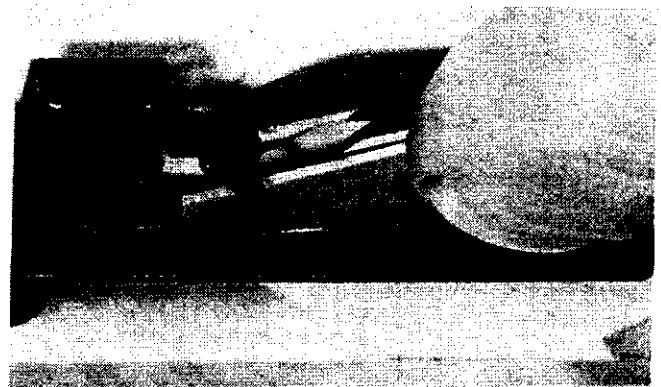
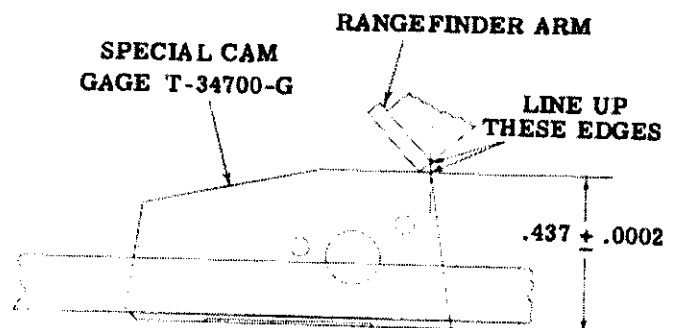

Figure 3. CAM INSERTING
Figure 4. MASTER CAM - PRE-INFINITY SETTING
b. Assemble the master cam gage in the cam slot (figure 3). The bid yoke must be back as far as possible. Assemble the yoke bracket and slide to a position that presses on the lower tube plunger to cause the master cam to line up with the edge of the rangefinder arm (figure 4).
e. Assemble the required lens cam (figure 3) and focus rangefinder at infinity and lock bed. Assemble rangefinder housing and secure with its mounting screws under normal tension. Check the image at infinity to be sure that it has not shifted due to assembly of the housing. Unlock the bed yoke and move forward to set the scales at the nearest marked distance. Check the rangefinder image at this distance measured from the film plane to the target.